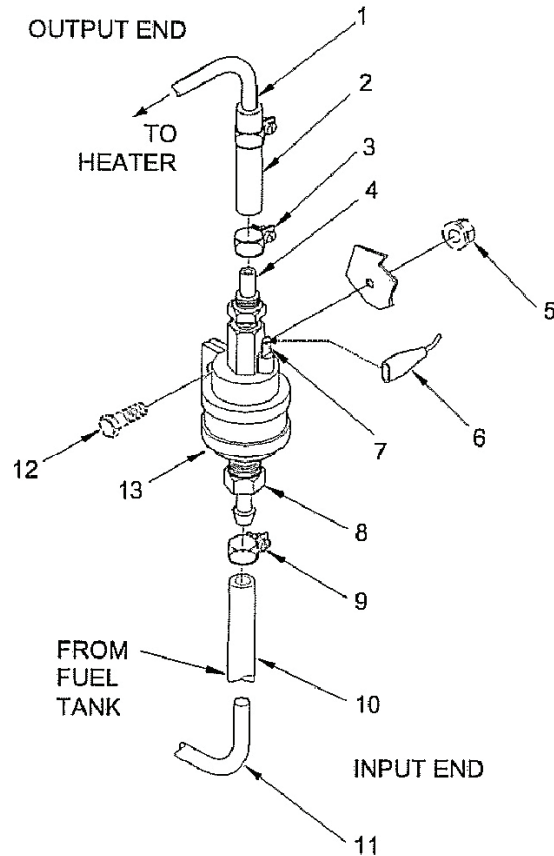

Figure 6-15. Fuel Pump Maintenance.
- b. Disconnect electrical leads (6, Figure 6-15) from connector (7) on fuel pump (13).
- c. Loosen screw clamp (9) to disconnect fuel line (11) and butt splice (10) from input end (8) of fuel pump (13). Drain any fuel from line into a suitable container.